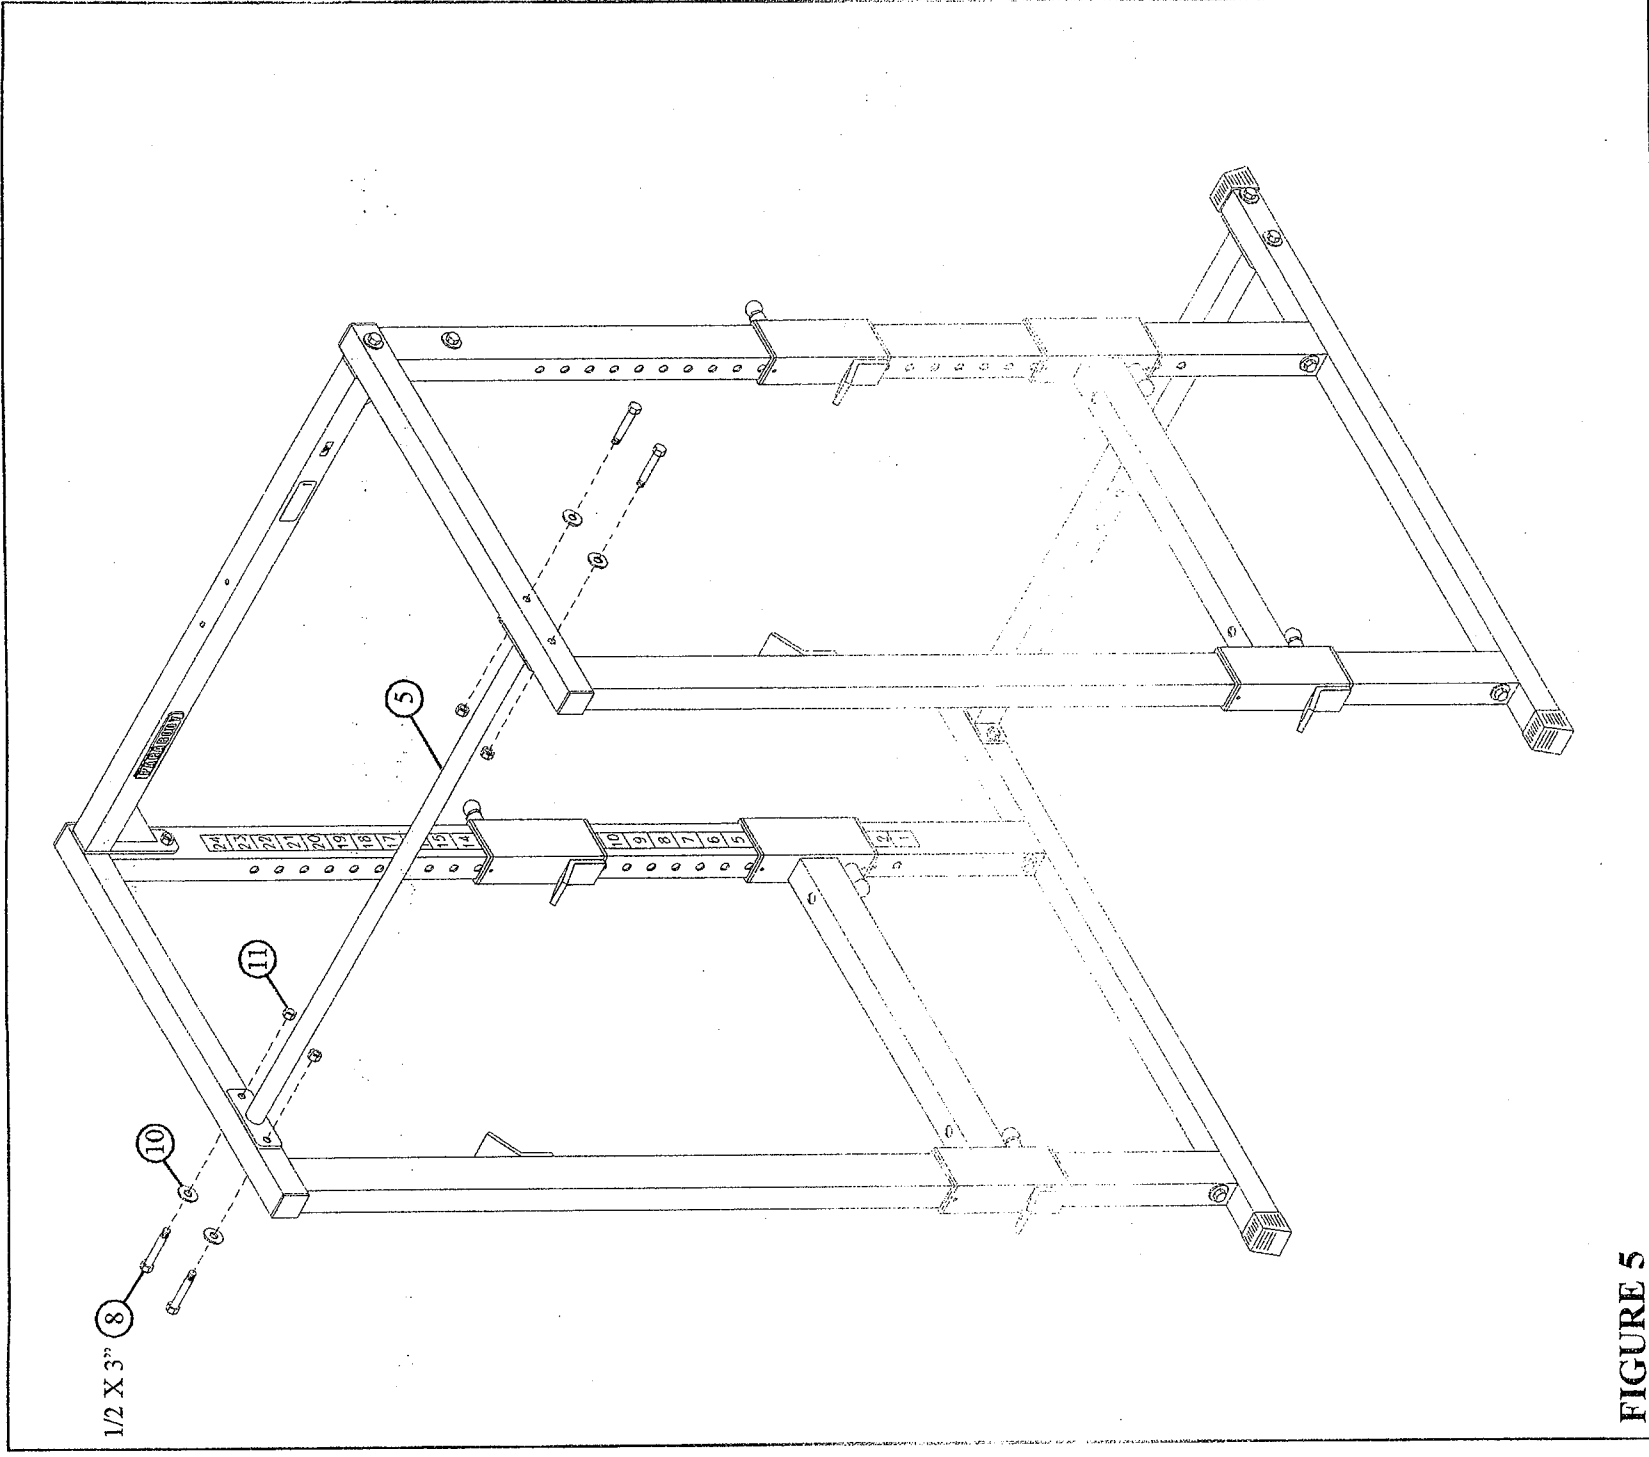

FIGURE 5
- LOOSELY assemble the CHIN BAR (5) using four 1/2 X 3" BOLTS (8), four 1/2" WASHERS (10), and four 1/2" LOCK NUTS (11). See FIGURE 5.